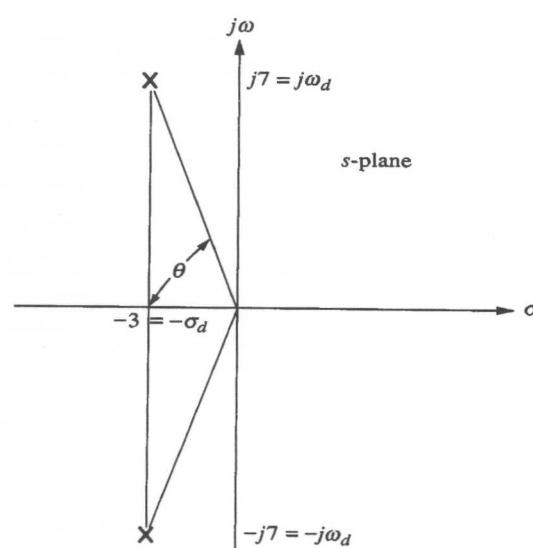

Figure 1
3.2 (6 points) Given the pole-plot as shown in Figure 1. Find T_p and T_s